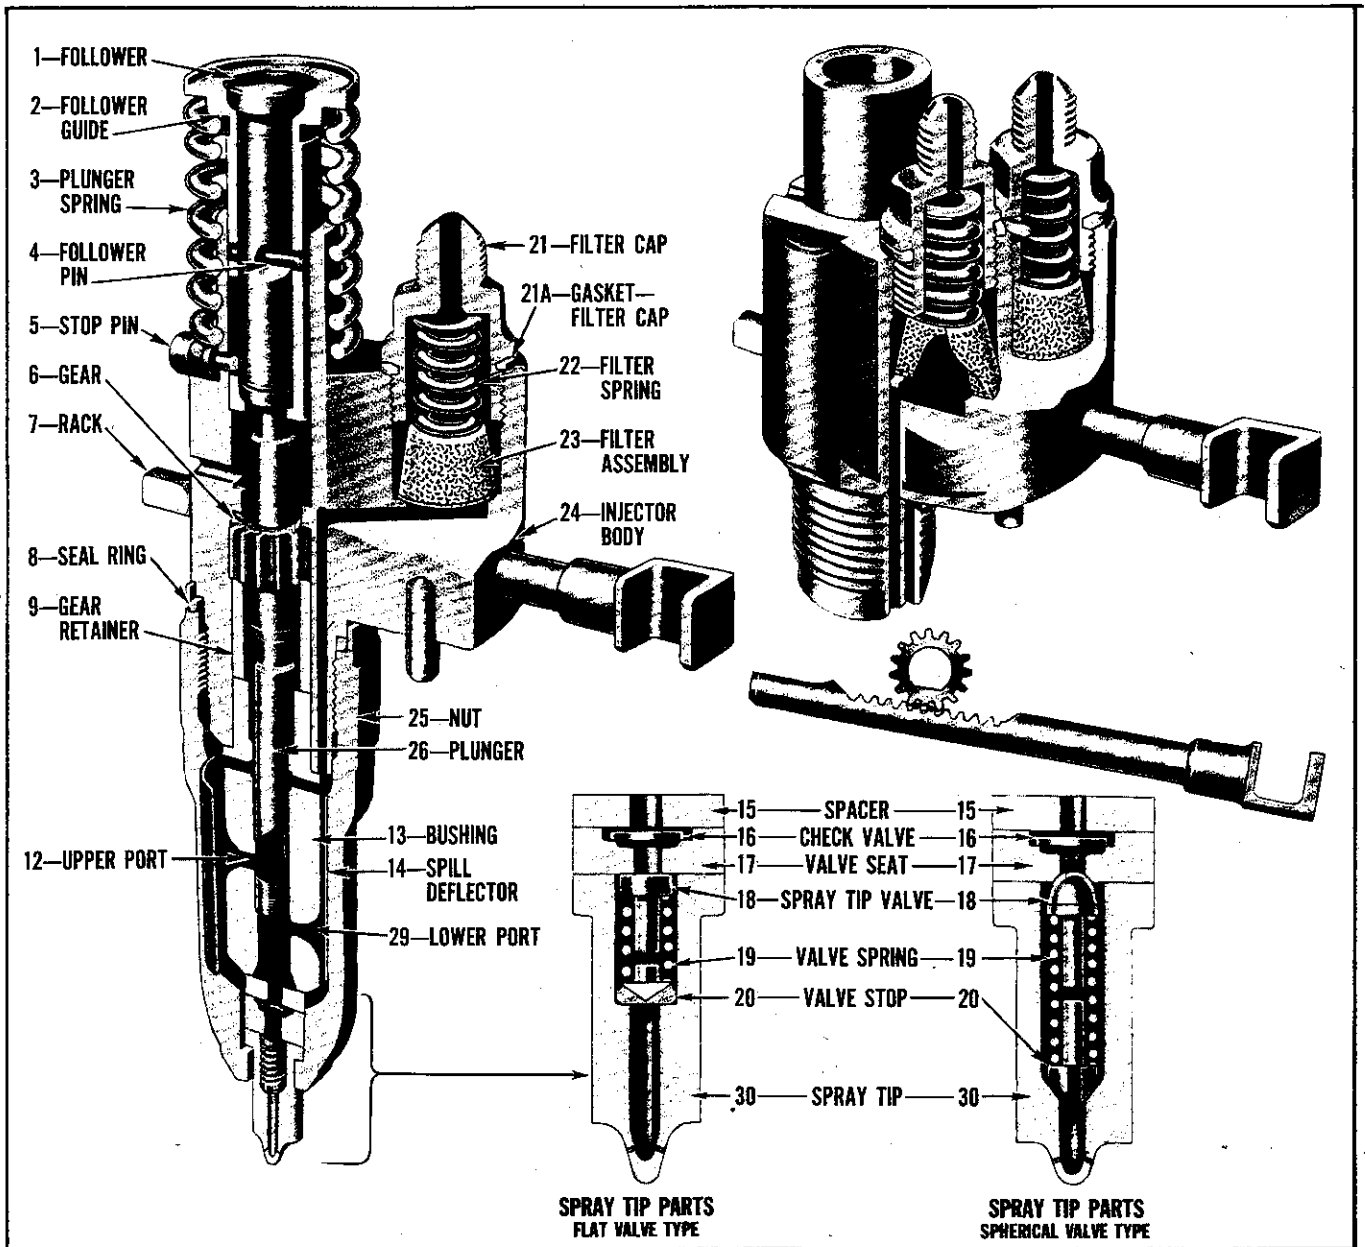

Fig. 2—Fuel Injector Assembly.
jector, shown in Fig. 2, performs a quadruple duty: 1st, metering and injecting fuel; 2nd, creating high fuel pressure; 3rd, atomization; and 4th, continuous by-pass of fuel through the injector body which acts as a coolant and also eliminates air pockets. The unit fuel injector, developed by General Motors and used in these engines, combines in a single unit all of the parts necessary to perform the above functions, thus providing a complete and independent injection system for each engine cylinder.
**Description**—The cross section of the Model 71 Injector, illustrated in Fig. 2, shows the various fuel injector parts. Fuel oil is supplied to the injector at a pressure of about twenty pounds per square inch and enters the drop-forged steel body (24) at the top through the filter cap (21). After passing through the fine-grained filter element (23) in the inlet passage, the fuel oil fills the annular supply chamber between the bushing (13) and the spill deflector (14). The plunger (26) operates up and down in this bushing, the bore of which is connected to the fuel supply in the annular chamber by two funnel-shaped ports.
the center passage of the valve assembly, through the check valve (16), shown in Fig. 2, and against the spray tip valve (18). When sufficient fuel pressure is built up, the valve (18) is lifted off its seat and fuel is forced through seven small orifices in the spray tip (30) and atomized in the combustion chamber.